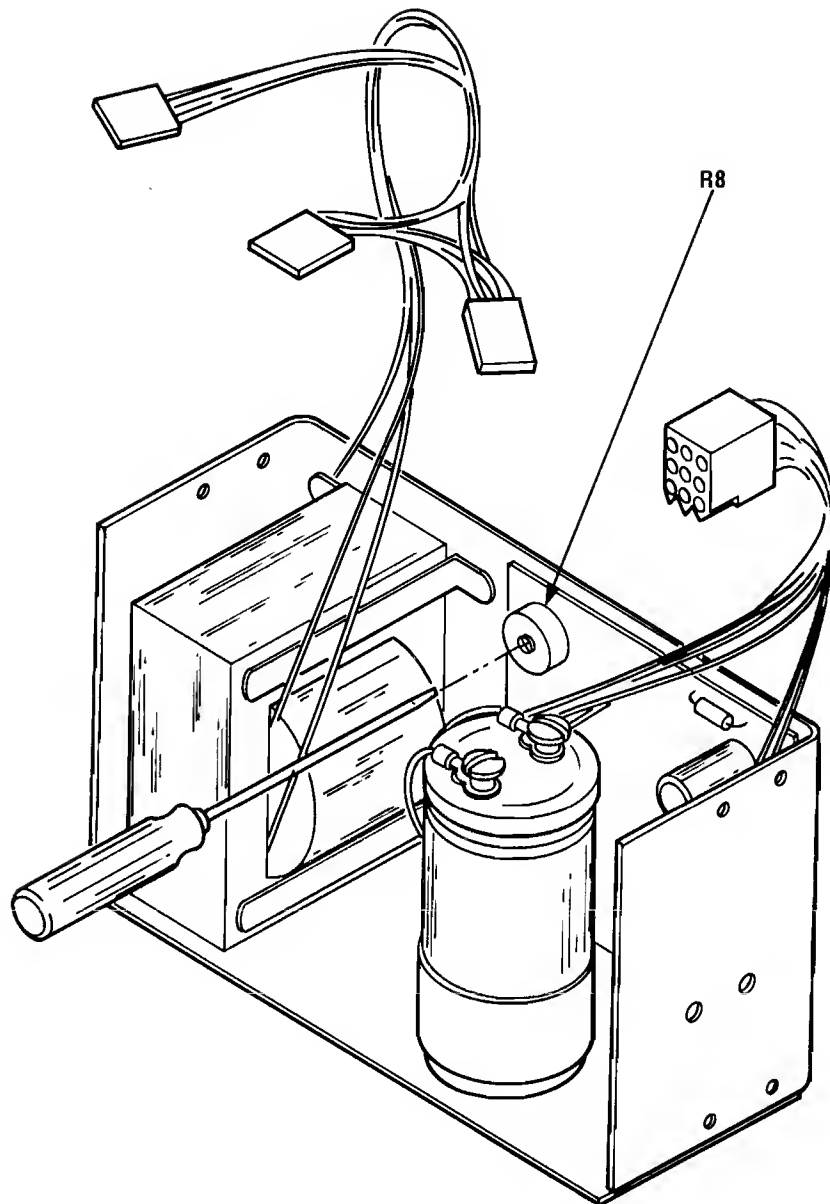

Figure 2. Power Supply (Including Harness)
2. *Adjust potentiometer R8 (Fig. 2) on power supply for +5.0 VDC* as measured on the LOGIC PCB. The positive (+) lead of the voltmeter must be touching the large metal area (trace) on the *non-component* side of the LOGIC PCB which is connected to pins 2 and 5 of the 6-pin connector. The negative (–) lead of the voltmeter must be touching the large metal area (trace) on the *component* side of the LOGIC PCB, which is connected to pins 1 and 6 of the 6-pin connector.